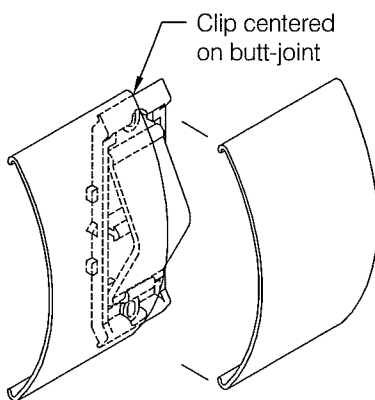

fig 7
- At each WGV-5 cover butt-joint, see **fig 7**
Step 8: Measure between accessories, including optional vertical accents where used, and cut the WGV-5 vinyl cover. Miter cut the WGV-5 for all special angle corners not accommodated by the molded accessories. Install a Red-E-Clip® retainer centered at each WGV-5 butt-joint location, see **fig 7**.